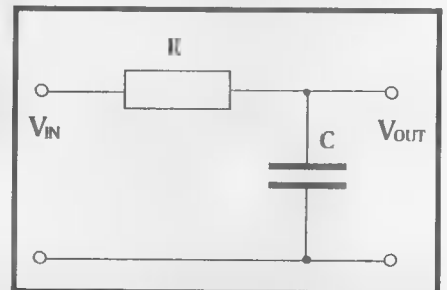

Figure 1 — Simple analog low-pass filter circuit.
We are all familiar with analog filters, an example of which is shown in Fig 1. This is a single section RC low pass filter. DC and low frequency AC signals are not attenuated but as the frequency is raised, so the output falls. That is, the attenuation increases with frequency. The phase of the output signal also lags behind the input signal, the phase difference being greater at higher frequencies. Cascading several of these circuits gives both a sharper band edge roll-off and a greater phase shift.
We also know that if a DC voltage is suddenly applied to the input, the output rises slowly to the input value, the rate of rise being determined by the product of R and C. In other words the circuit in Fig 1 is also a delay circuit. We already know this as RC networks are used for the basis of many timing circuits. Further study would reveal that an analog delay circuit using discrete components usually has a bandwidth which is inversely proportional to the delay.
**The output of a CR network as in Fig 1 is compared to a digital simulation of the same network. The time constant is 5 milliseconds and the digital algorithm is:**